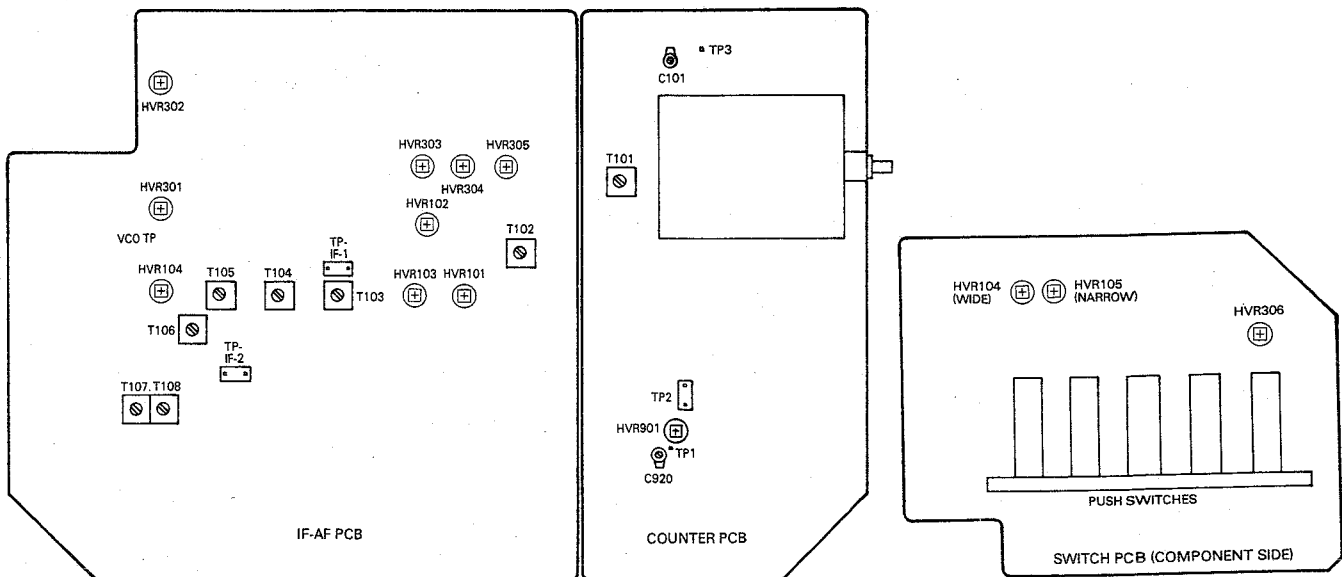

Figure 3 Adjustment Points
3. Adjust the potentiometer HVR306 (refer to Fig. 3) so that the AC voltmeter indicates 333 mV r.m.s.